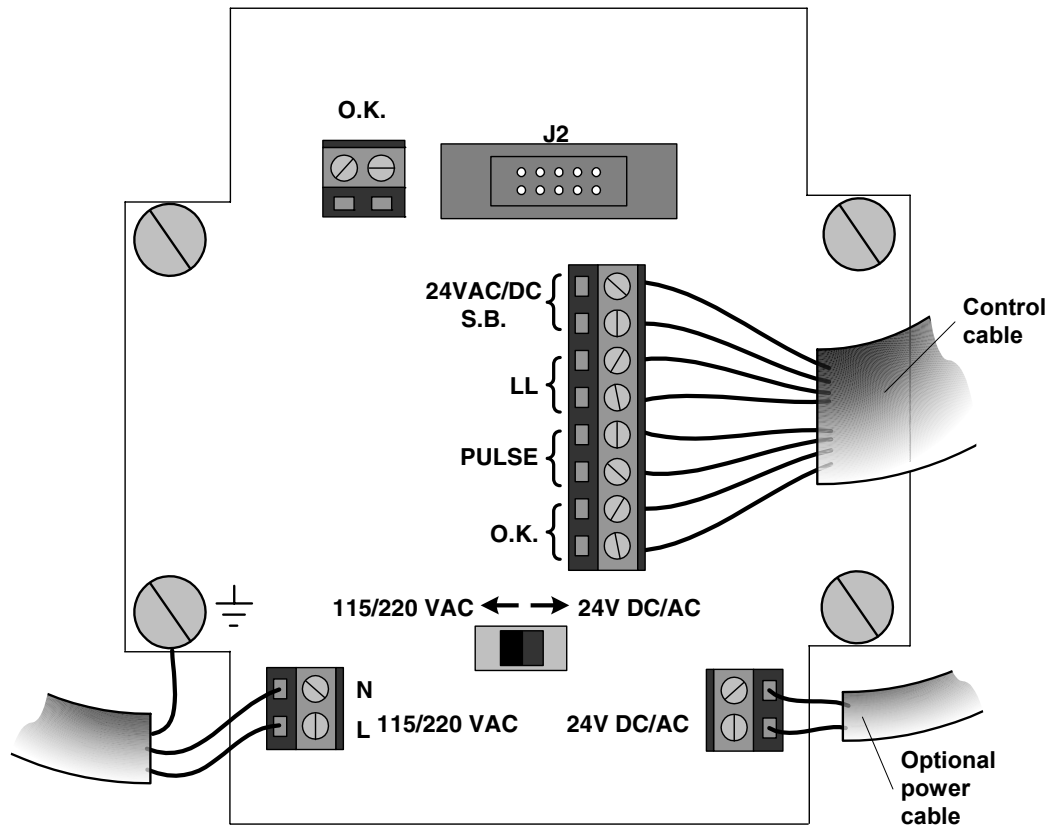

Figure 6: Connection box PCB – wiring diagram
1. The Dripmaster was in the Pre-lube (pump off) mode and dripping 2 dpm. When the pump is turned on, the Dripmaster is no longer in the Pre-lube mode but switches to the Normal mode (the 24 V applied to the SB terminals shown in Figure 6 have been removed).